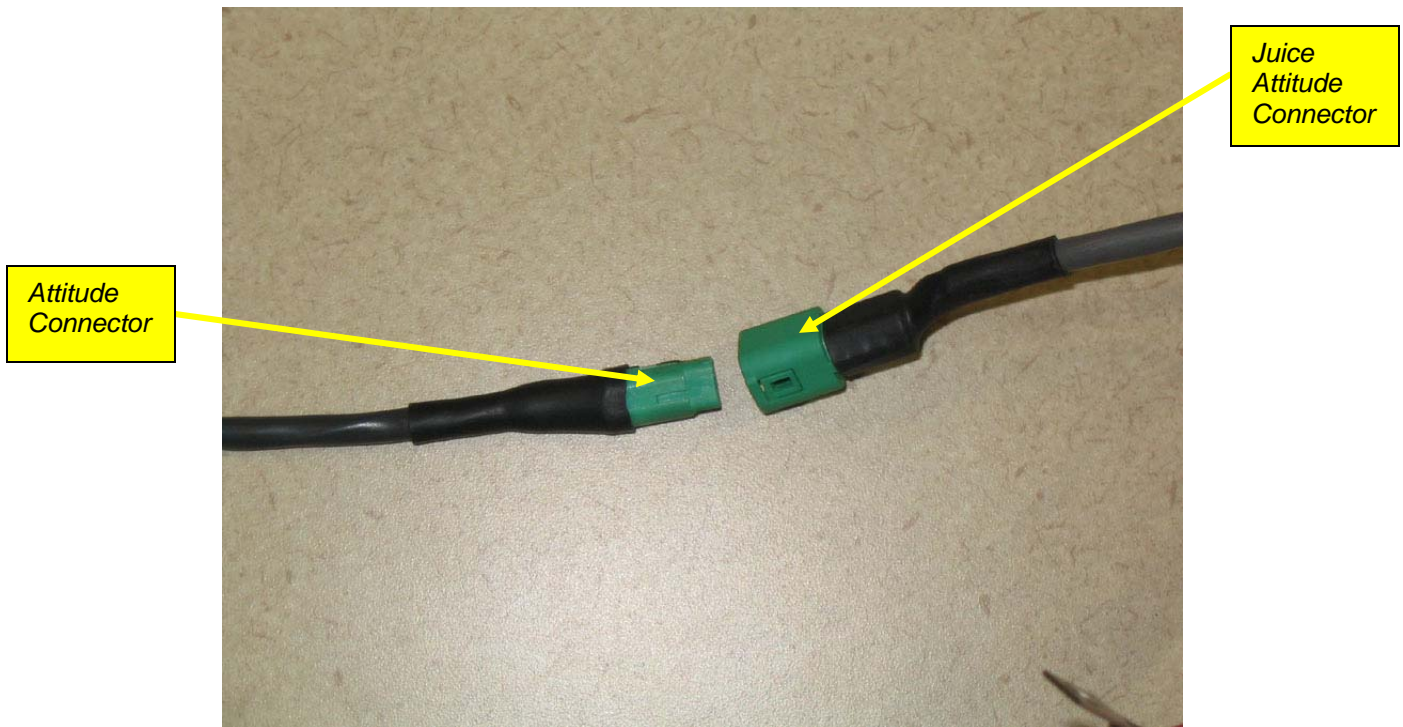

Figure 2.
3. Connect the *Attitude* to your Edge *Juice* module by snapping together the cables with the green connections (*see figure 2*). Secure any excess cable to prevent entanglement with moving engine parts.